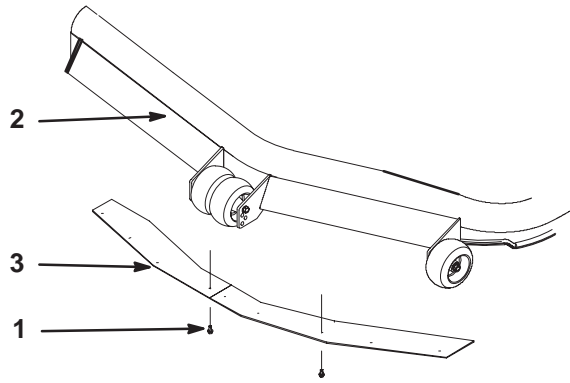

Figure 14
1. To install or remove blowout baffles, install or remove bolts as shown in Figure 14.